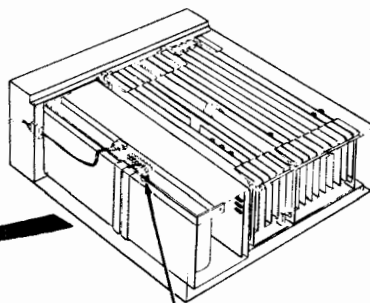

Fig. 6—Fuse Locations
3.06 Check fuses, condition and ratings (fuse ratings are critical, no higher rating than specified shall be used). Refer to Fig. 6 for locations: